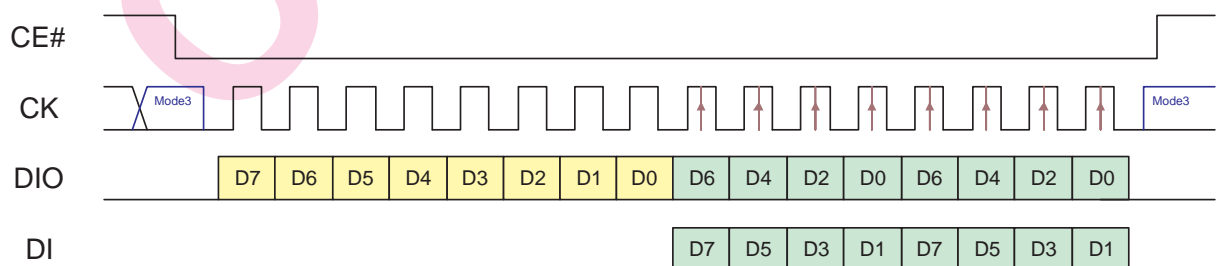

Figure 62: SPI Flash 2 Input R/W Timing
- Figure 62: SPI type flash read/write timing with dual input mode